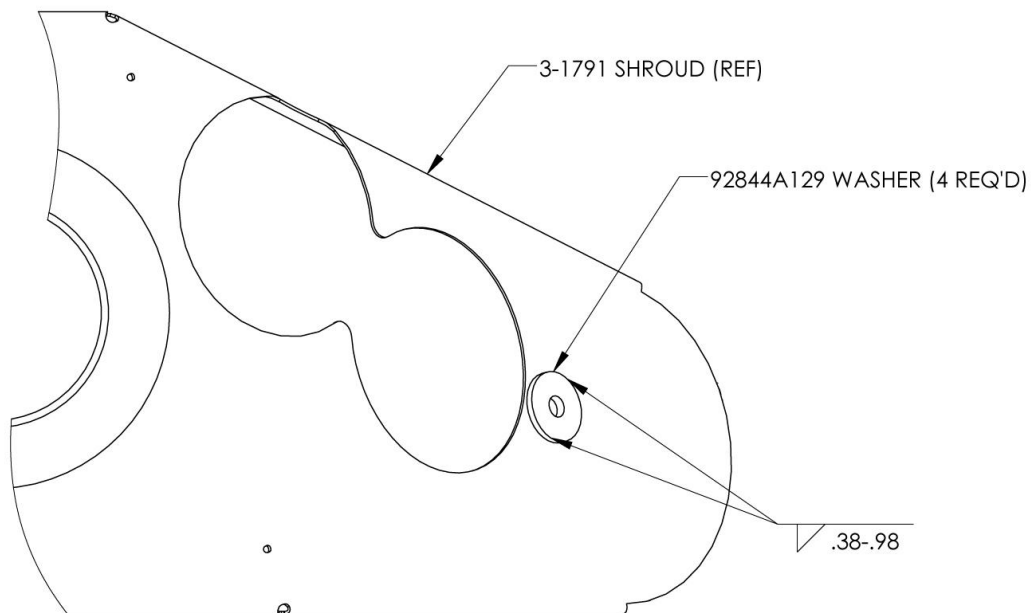

Figure 4, Washer Welded to Shroud (4 Places)
3. Position 92844A129 (McMaster-Carr) washer on outside face of shroud at $\text{Ø}.191$ attach holes (4 places). Weld washer to shroud per specification CW-1S or equivalent process, see figure 4.